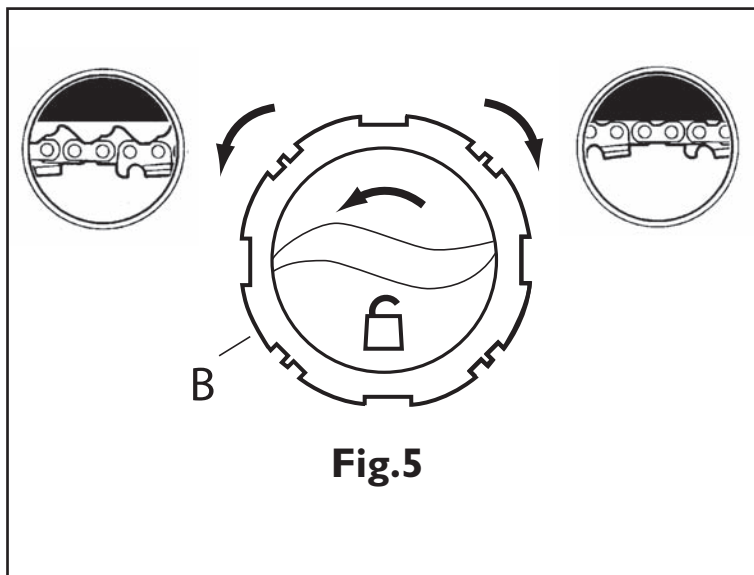

Fig.5
1. To adjust the chain is simple, turn the knob (B) clock wise. To loosen the chain just turn anticlockwise. (Fig. 5)